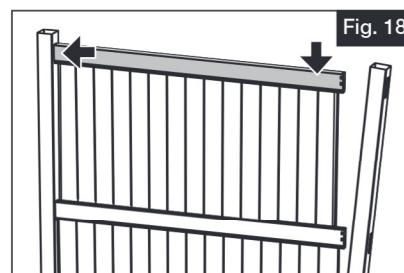

Fig. 18
- c. Insert the top rail into the first top hole post route then guide over top of boards (Fig. 18)